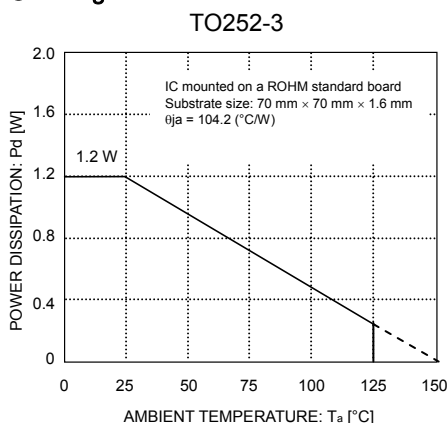

Fig. 23
Refer to the heat mitigation characteristics illustrated in Figs. 23, 24 and 25 when using the IC in an environment where $T_a \geq 25^{\circ}C$. The characteristics of the IC are greatly influenced by the operating temperature. If the temperature is in excess of the maximum junction temperature T_{jmax} , the elements of the IC may be deteriorated or damaged. It is necessary to give sufficient consideration to the heat of the IC in view of two points, i.e., the protection of the IC from instantaneous damage and the maintenance of the reliability of the IC in long-time operation.
In order to protect the IC from thermal destruction, it is necessary to operate the IC not in excess of the maximum junction temperature T_{jmax} . Fig. 23 illustrates the power dissipation/heat mitigation characteristics for the TO252 package. Operate the IC within the power dissipation P_d . The following method is used to calculate the power consumption P_c (W).